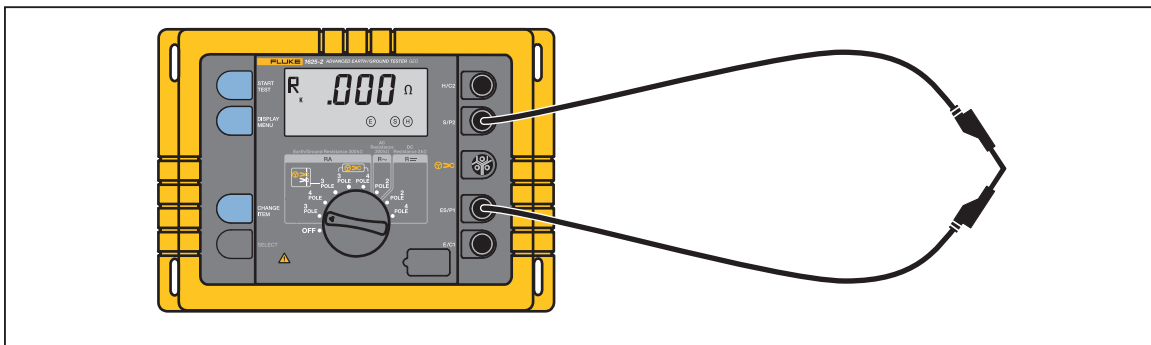

Figure 14. Compensation of Measuring Lead Resistance
2. Short circuit measuring lead as shown in Figure 14.